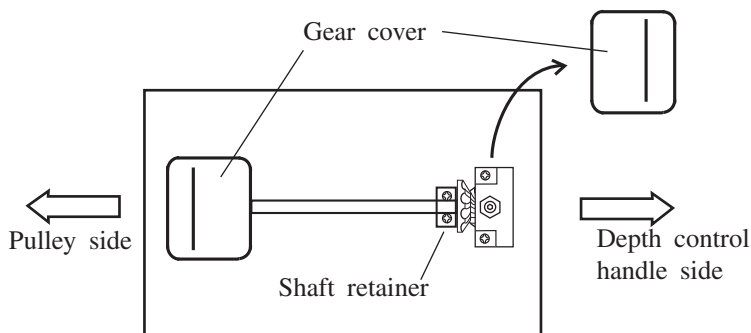

Fig.8A
(4) Remove gear cover on depth control handle side. (See Fig.8A.)